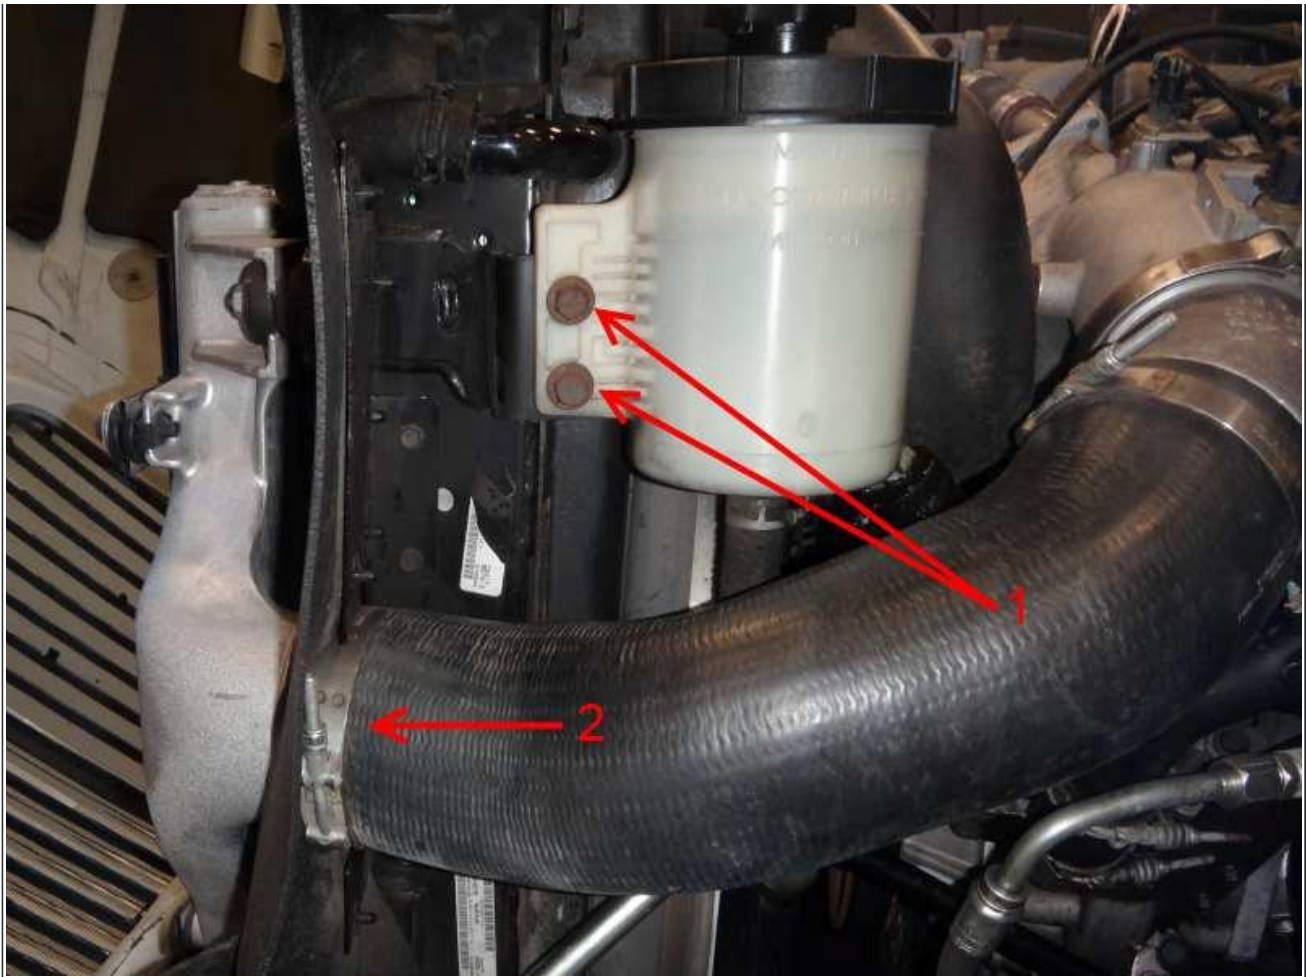

Figure 7: Driver Side HPCAC
17. Loosen the driver side HPCAC outlet clamp and disconnect the HPCAC pipe (**Figure 7**, Item 2).
18. Remove the two power steering reservoir bolts, and reposition away from the radiator (**Figure 7**, Item 1).